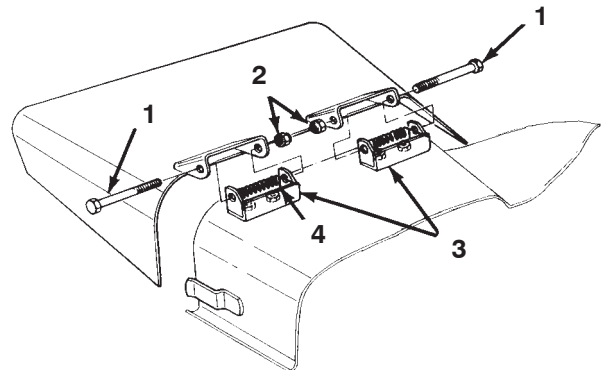

Figure 32
2. Remove the 2 capscrews, locknuts, and springs securing the deflector mounts to the pivot brackets (Fig. 32).
3. To remove the pivot brackets, remove the carriage bolts and nuts (Fig. 32).